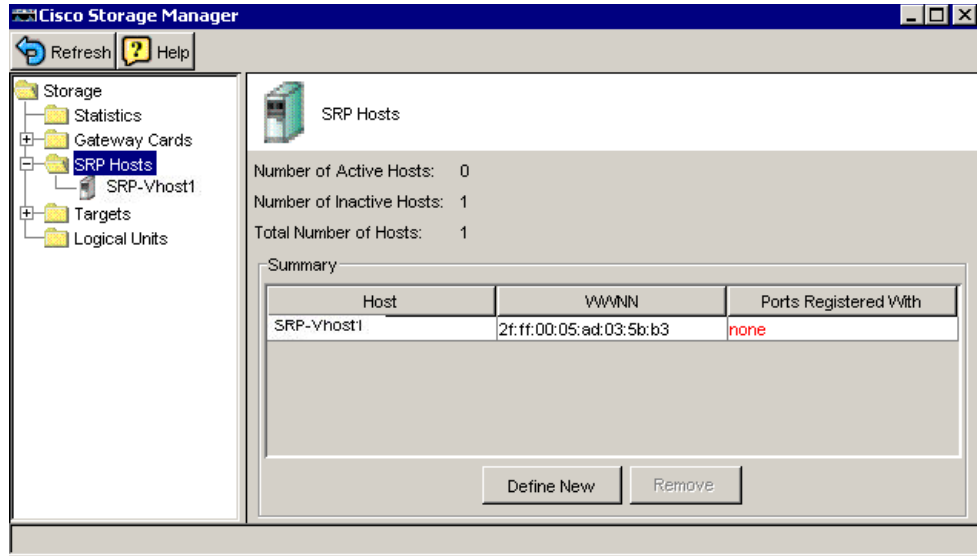

Figure 6-4 Define a New SRP Host from the TS3012 Storage Manager menu
- From the Element Manager UI, select **Fibre Channel** → **Storage Manager**. Select the **SRP Hosts** folder in the left-hand pane as shown in Figure 6-4.